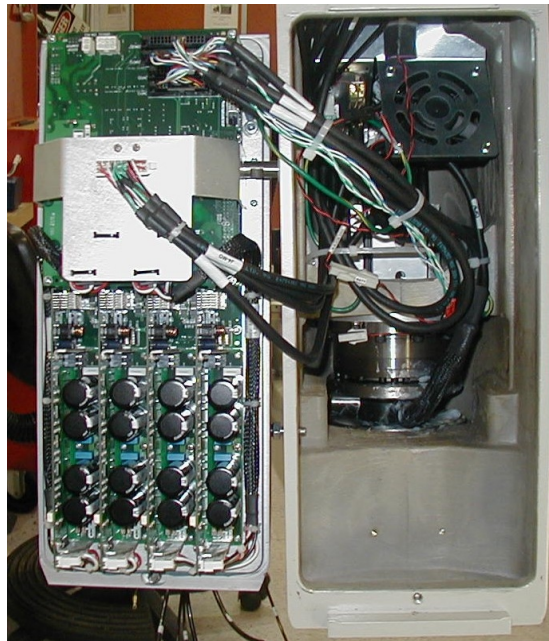

Figure 5-5. Chassis Hanging from Support Bolt—AIB Shown
4. Carefully reconnect the cables you removed from their connectors on the PMAI/ePMAI board (see Figure 5-5). Engage the securing latches on the connectors.